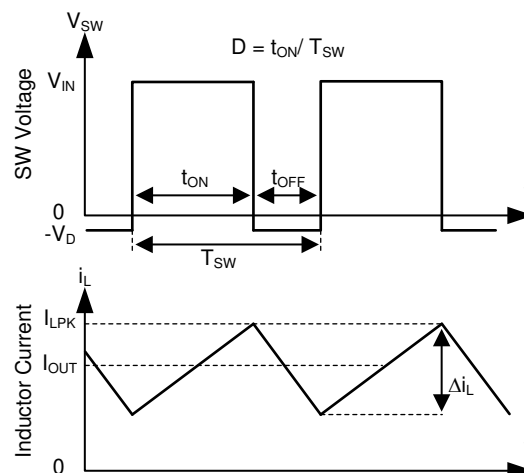

Figure 10-2. SW Node and Inductor Current Waveforms in Continuous Conduction Mode (CCM)
The following operating description of the TPS2585x-Q1 refers to the Functional Block Diagram. The TPS2585x-Q1 integrates a monolithic, synchronous, rectified, step-down, switch-mode converter with internal power MOSFETs and USB current-limit switches with charging ports auto-detection. The TPS2585x-Q1 offers a compact solution that achieves up to 6.6 A of continuous output current with excellent load and line regulation over a wide input supply range. The TPS2585x-Q1 supplies a regulated output voltage by turning on the high-side (HS) and low-side (LS) NMOS switches with controlled duty cycle. During high-side switch ON time, the SW pin voltage swings up to approximately V_{IN} . The inductor current i_L increases with linear slope $(V_{IN} - V_{OUT}) / L$. When the HS switch is turned off by the control logic, the LS switch is turned on after an anti-shoot-through dead time. Inductor current discharges through the LS switch with a slope of $-V_{OUT} / L$. The control parameter of a buck converter is defined as Duty Cycle $D = t_{ON} / T_{SW}$, where t_{ON} is the high-side switch ON time and T_{SW} is the switching period, shown in Figure 10-2. The regulator control loop maintains a constant output voltage by adjusting the duty cycle D . In an ideal buck converter, where losses are ignored, D is proportional to the output voltage and inversely proportional to the input voltage: $D = V_{OUT} / V_{IN}$.